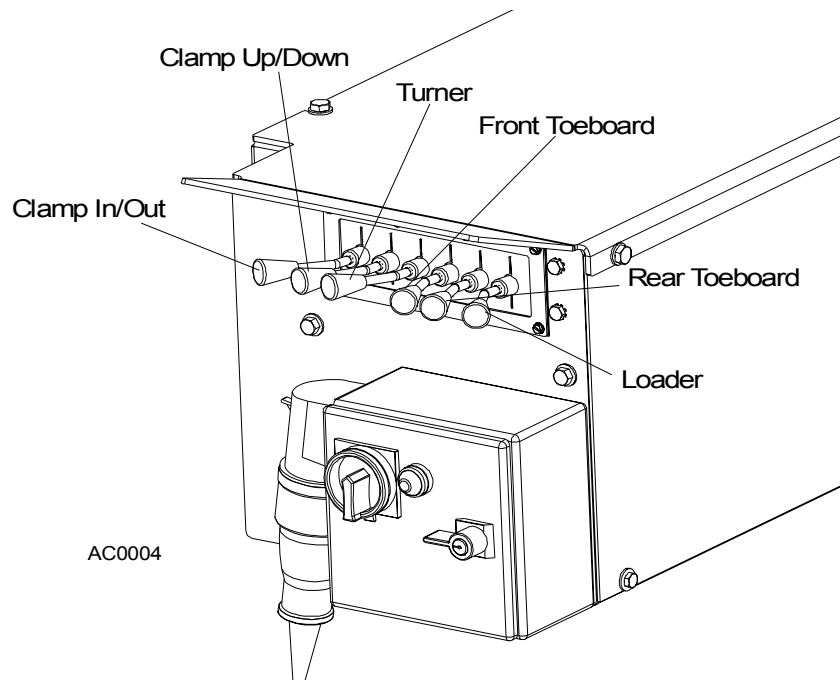

FIG. 2-9
**See Figure 2-9.** AH3 Hydraulic units have six control levers to load, clamp, turn and level logs, AH5 Hydraulic units have four extra control levers to operate front and rear hydraulic